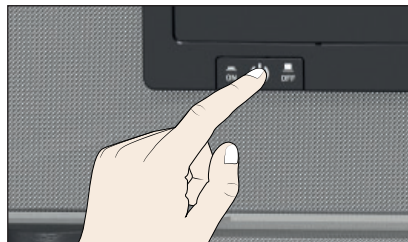

Fig. 25 Switching on the appliance
3. Switch on the VO by pressing the main switch on the front of the appliance (Fig. 25).